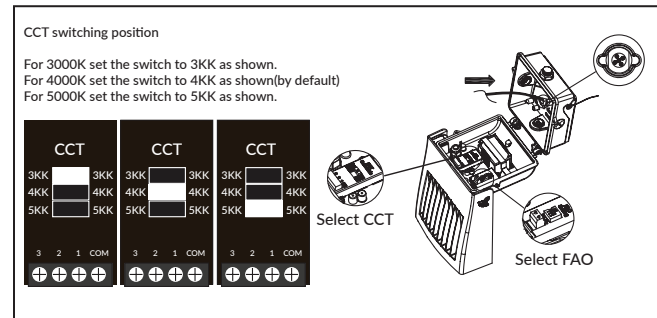

Figure 4A.
5. Pull out the power supply wires (L black, N White), grounding wire (G Green), by breaking through the 5 hole wire gasket. (Figure 4A)